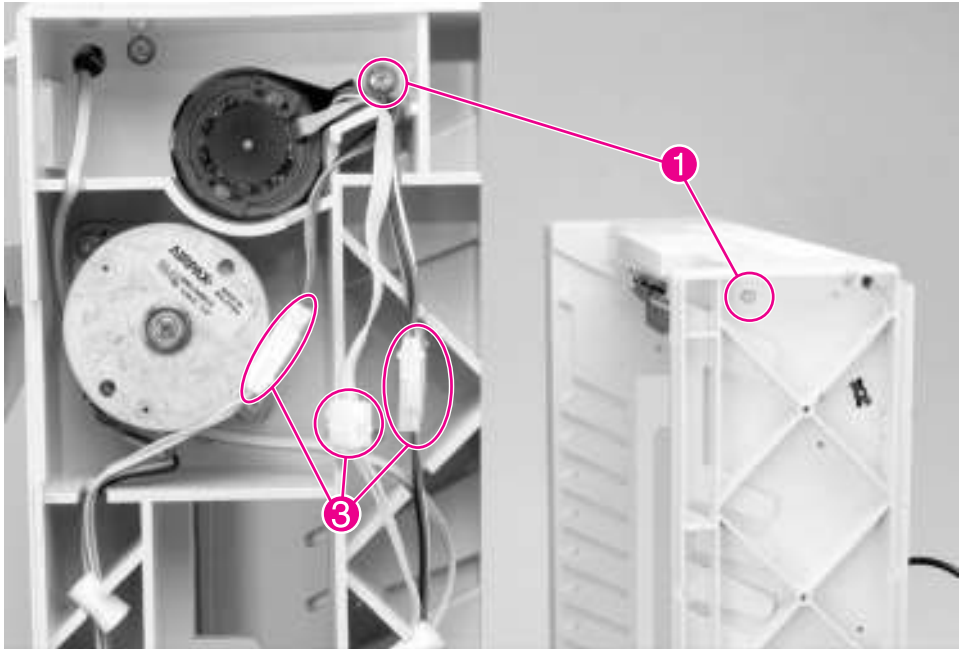

Figure 6-154 8-bin Mailbox Flipper Assembly (1 of 3)
- 3 Remove the 2 screws closest to the upper-left side of the 8-bin Mailbox: 1 screw on the front and back sides of the 8-bin Mailbox frame (Figure 6-154, callout 1).
- 5 Unplug the Flipper Assembly's 3 cables from the connectors that are located on the 8-bin Mailbox unit's back side (Figure 6-154, callout 3).
- 2 Route the Flipper Assembly's 3 cables through the back side of the 8-bin Mailbox frame and reconnect the 3 cables to the connectors (Figure 6-154, callout 3).